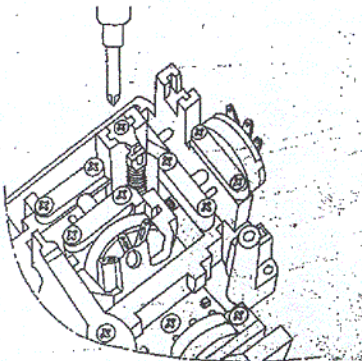

Figure 1
* High & low, wings direction's controls are automatic. The control of gas(waste) is made by grooving machine to maintain the proper motor operation. To change the gas(waste) form left side to right side or reverse, you should replace control screw and grooving. To do so, remove the transmitter(back) with driver. Just like in Figure 1, pull the mechanical control screw form handle. After that, put it on the spring of another handle.